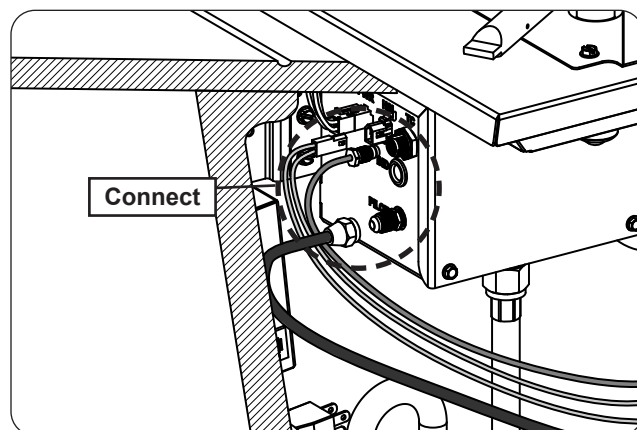

Fig. 28-3 Connect pilot line, thermocouple, and hot surface igniter
6. Connect the pilot line, thermocouple, and hot surface igniter (coming from the burner assembly) to the control box (see Fig. 28-3).